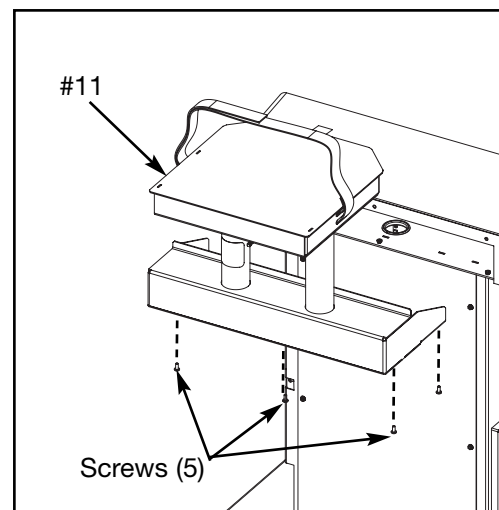

Figure 3
- B. Place the projector shelf (from step 1) inside the cabinet and align holes. See Figure 3.